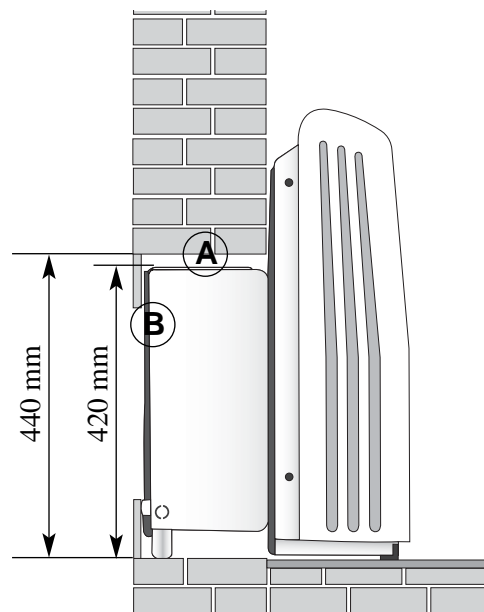

fig. 3
4. Place the air conditioner through the wall hatch, and make sure that the end of the air conditioner skims the outdoor wall profile (see fig. 3). Seal the rift with opposite resins, in order to avoid the water and the insect entrance.
5. Place along the frontal (A) and rear (B) side thermal/noise proof material (thickness 50 mm) in order to avoid noise, air and heat passage from the unit to the room and outdoor ambient and viceversa (see fig. 3).